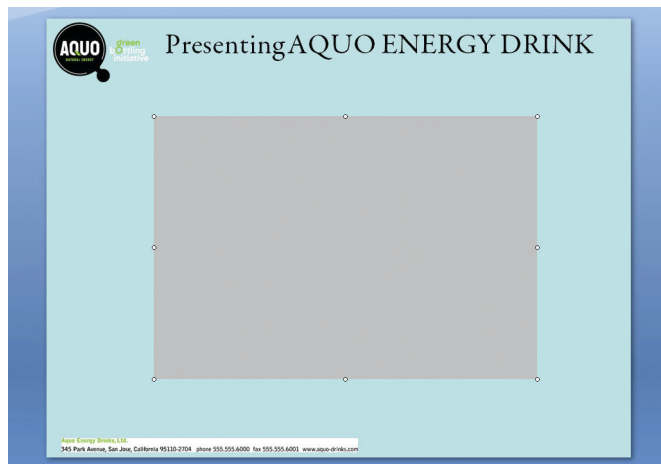

Figure 3
7. Drag the gray square into the center of the PowerPoint slide. You can also resize the gray area by dragging the edges of this gray square, as shown in **Figure 3**.